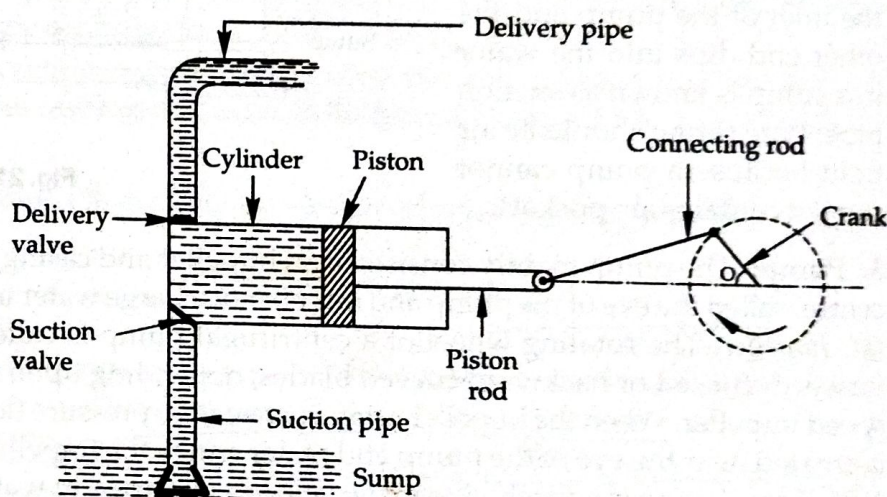

Fig. 22 Reciprocating Pump
- (a) *Single acting pump*: If there is only one suction and one delivery pipe and the liquid is filled only one side of the piston, it is called single acting reciprocating pump (Fig. 22).
Reciprocating pumps are positive displacement pumps, *i.e.* initially, a small quantity of liquid is taken into a chamber and is physically displaced and forced out with pressure by a moving mechanical element. It is shown in Fig. 22.